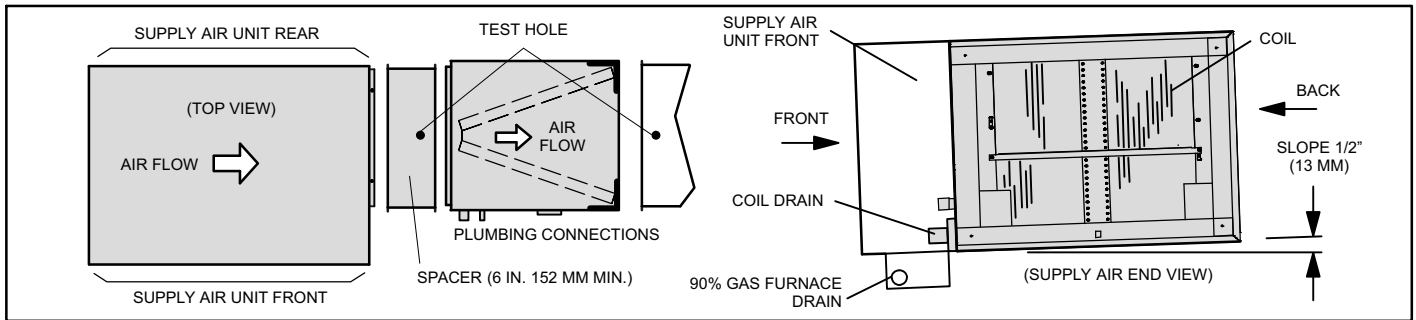

Figure 4. Right-Hand Air Discharge with Spacer
4. **Right-Hand Air Discharge with Field-Provided Spacer**—The coil must have a 1/2" slope from the rear of the cabinet to the drain. Position the coil in the left-to-right configuration connection on the service access side of the furnace (see figure 4). Position the field-provided spacer between the furnace and the coil. Use field-provided screws to secure the coil cabinet, spacer and the furnace together. The spacer should be long enough to allow room for proper installation (approximately six inches minimum).